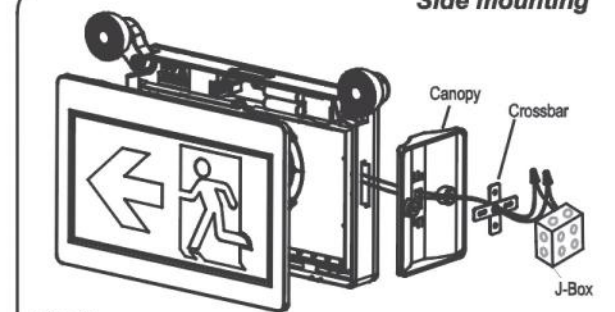

Fig 4
3. For ceiling and side mounting purpose, remove the mounting hole cover on the top or side of the unit, assemble the canopy (see Fig 4,5,6).